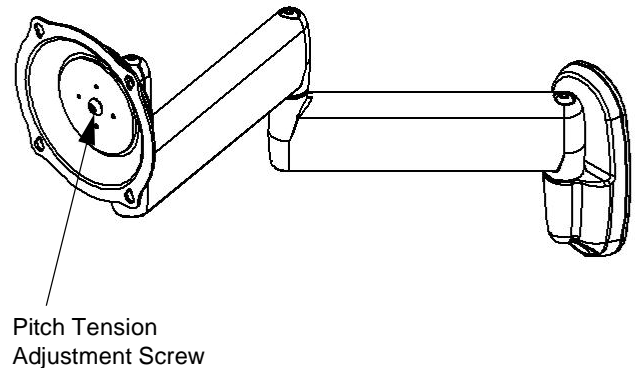

Figure 11: Pitch Adjustment
1. Check adjustment screw on the Centris interface to ensure that the screw is tight. (see figure 11)
2. If needed, use a 3/16" hex wrench (90) to tighten the screw.